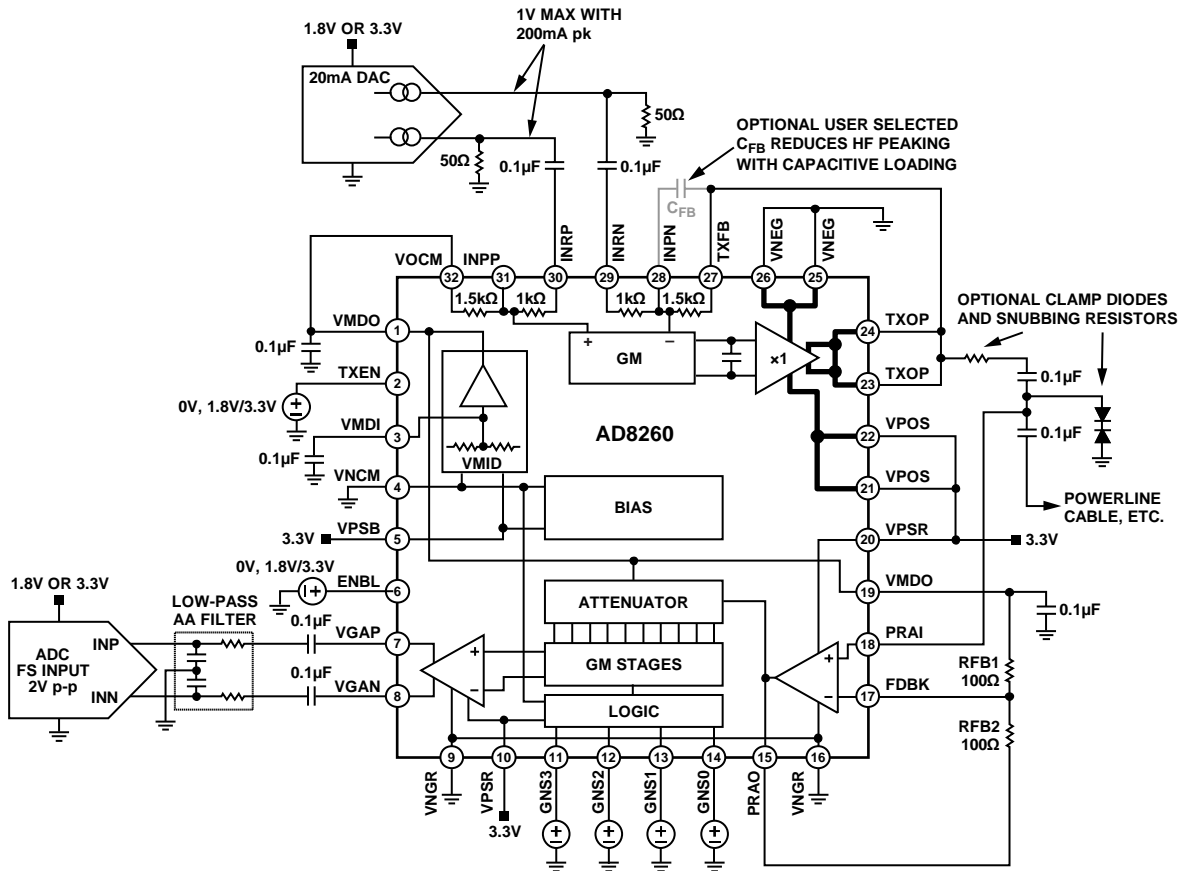

Figure 64. Block Diagram and Basic Application Connections
The AD8260 is a self-contained transceiver intended for analog communications using a power line as the media. Operating on supplies as low as 3.3 V, it includes a high current driver usable as a transmitter and a low noise digitally programmable variable gain amplifier (DGA), usable as a receiver (see Figure 64). An uncommitted current-feedback high frequency op amp acts as a preamplifier and interface to the DGA and is user configured for gains greater than 6 dB. Combined, the VGA and preamplifier are usable at high signal levels from dc to 100 MHz, with a small-signal  $-3$  dB bandwidth of 230 MHz. To implement a high current-output VGA, the VGA output can be connected to the driver-amplifier differential input.
4-bit parallel interface. Figure 64 shows the circuit block diagram and basic application connections, and illustrates the envisioned external DAC, ADC, and power-line bus interface connections. The diagram shows the connections for single 3.3 V supply operation; if a dual supply is available, the VMID generator can be shut down and Pin VMDI, Pin VMDO, and Pin VOVM need to be grounded. Note that Pin VNOCM functions as the negative supply for the bias and VMID cells, plus the logic interfaces, and should always be tied to ground.
For optimal dynamic range, it is important that the inputs and outputs to both the driver amplifier and the preamplifier and the DGA output amplifier be ac-coupled in a single-supply application. In Figure 64, the DAC and ADC are presumed to operate on a 1.8 V or 3.3 V supply with a corresponding limited output and input swing. The DAC outputs are currents that point down and generate a voltage in the  $50\ \Omega$  resistors that are connected to ground. The maximum voltage with a peak DAC output current of 15 mA is 0.75 V; if a DAC with a 20 mA peak current is used, then the maximum voltage is 1 V per side for a differential input signal of 2 V p-p.
The high current driver amplifier can deliver very large output currents suitable for driving complex impedances, such as a power line, a 50  $\Omega$  line, or a coaxial cable. The input of the amplifier is fully differential and intended to be driven by a differential current-output DAC, as shown in Figure 64. The differential input signal is amplified by 1.5 $\times$  and produces a 2.25 V p-p single-ended output signal from a 1.5 V p-p input signal. A DAC with 15 mA maximum output current into a 50  $\Omega$  load provides 1.5 V p-p of input voltage and results in 2.25 V p-p at the output. A DAC whose output is 20 mA produces an output swing of 3 V p-p (neglecting a small gain error when driving the parallel combination of the 50  $\Omega$  load-resistor and the internal 1 k $\Omega$  gain resistor of the AD8260).
During receive, when the high current driver-amplifier is disabled, its gain setting resistors provide a signal path from input to output. To prevent inadvertent DAC signals from being transmitted while receiving via the preamplifier and DGA, the DAC in Figure 64 must have no output signal.
The VMID buffer is a dc bias source that generates the voltage on Pin 1 and Pin 19, VMDO. Node VMDO cannot accommodate large dynamic currents and requires excellent ac decoupling to ground. A high quality 0.1μF capacitor located as close as possible to Pin 1 and Pin 19 (see Figure 64) is normally sufficient to decouple the high values of current from Node VMDO.
Referring to Figure 64, the signal path consists of a 30 dB programmable attenuator followed by a fixed gain amplifier of 18 dB for a total DGA gain range of  $-12 \text{ dB}$  to  $+18 \text{ dB}$ . With the preamplifier configured for a gain of 6 dB, the composite gain range is  $-6 \text{ dB}$  to  $+24 \text{ dB}$  from single-ended preamplifier input to differential DGA output.
- Use the internal VMID buffer as shown in Figure 64.